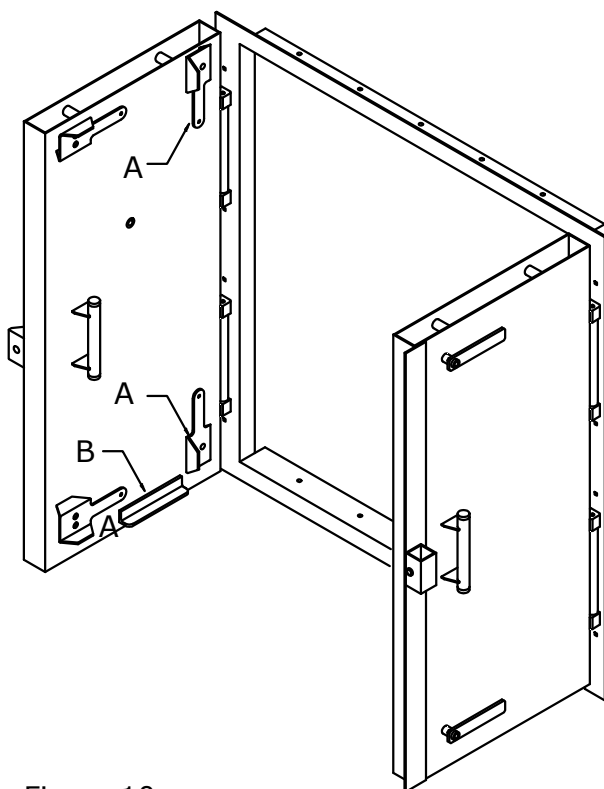

Figure 10
- Viewer, (Y-N), see figures 10